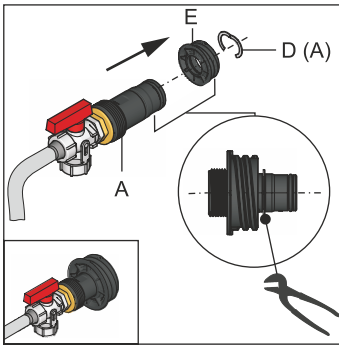

Fig. 9-3 Completing the combined filling and draining filling connection
- 1 Insert the combined filling and draining filling connection in the threaded piece (Fig. 9-3, item E) and secure with the clamping piece (Fig. 9-3, item D).